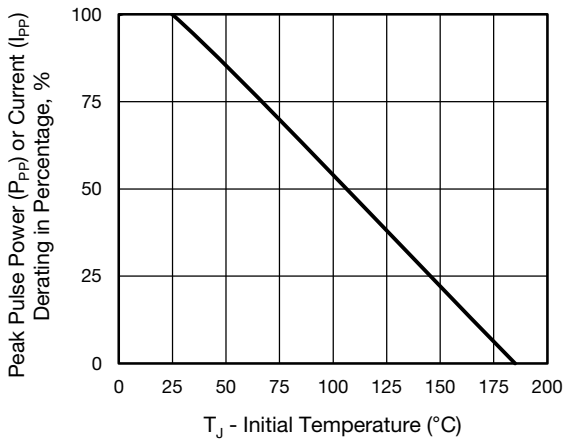
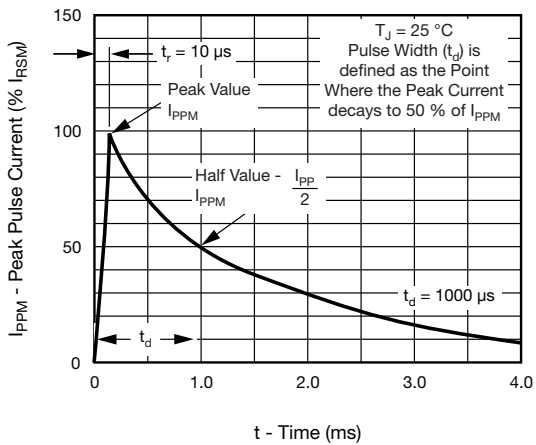

Fig. 2 - Pulse Power or Current vs. Initial Junction Temperature
Fig. 3 - Pulse Waveform
(1) Non-repetitive current pulse, per fig. 3 and derated above  $T_A = 25\text{ }^\circ\text{C}$  per fig. 2.
(2) Power dissipation mounted on infinite heat sink
(3) Power dissipation mounted on minimum recommended pad layout